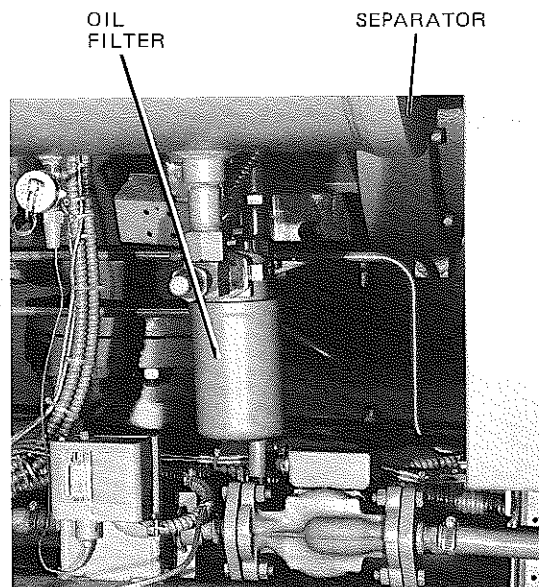

FIG. 14 - OIL FILTER
Each unit is equipped with an oil filter located on the bottom of the oil separators. (See Fig. 14) Filters are of 2 designs. (1) Earliest design included a spin-on canister type oil filter, or (2) Later design included a filter with replaceable element.